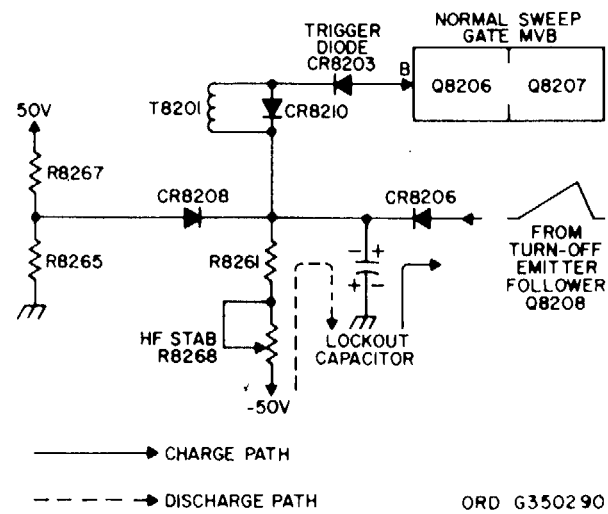

Figure 3-5. Lockout circuit, simplified schematic.
(1) The lockout circuit prevents the triggering of the normal-sweep gate multivibrator to occur during the sweep retrace interval. Although the disconnect diodes (when forward-biased) short-circuit the charging capacitor, they still offer some resistance to the capacitor current; preventing the capacitor from discharging at once. The time it takes the capacitor to discharge to its quiescent level (-2 volts), is the sweep retrace time. Since you don't want the sawtooth generator activated before the retrace time of the sawtooth signal is completed, you must prevent the normal-sweep gate multivibrator from being triggered during this interval. Figure 3-5 is a simplified schematic of the lockout circuit.
(2) You will recall in paragraph a above that trigger diode CR8203 and the lockout circuit prevent the triggering of the normal-sweep gate multivibrator during the forward sweep interval. Let's see how they perform this function. The sawtooth output of turn-off emitter follower, Q8208, besides going to turn-off diode CR8204, is also applied to diode CR8206 (zone A8)
causing it to conduct. With CR- 8206 conducting the lockout capacitor (selected by the setting of TIME/DIV switch S850) charges to this linear increasing voltage (shown by the solid line in fig. 3-5). As the lockout capacitor charges, a positive-going ramp voltage goes to trigger diode CR8203 via transformer T8201. This voltage reverse-biases the diode sufficiently to prevent any unwanted trigger pulses from changing the operating state of the normal-sweep gate multivibrator. When the sawtooth output of Q8208 is not present, voltage divider R8265, R8267 forward-biases diode CR8208, preventing the -50 volts applied to HF STAB resistor R8268 and resistor R8261 from forward-biasing trigger diode CR8203.
dashed line in fig. 3-5). The lockout capacitor doesn't fully discharge until the retrace time interval is completed. Therefore, trigger diode CR8203: is kept reverse-biased by the decreasing positive voltage from the lockout capacitor via diode CR8210 and transformer T8201 during the retrace time interval. This prevents the normal sweep gate multivibrator from being triggered.